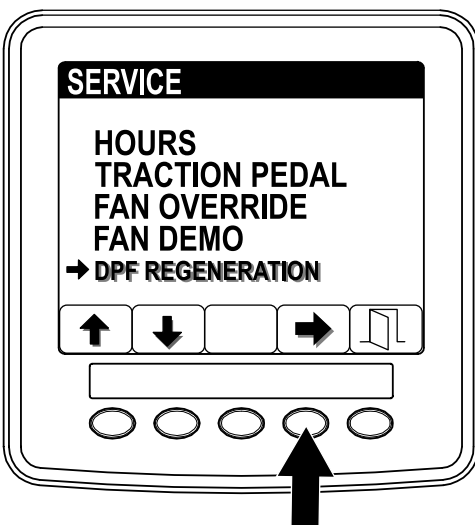

Figure 33
1. Access the Service menu, and press buttons 1 or 2 to scroll to the DPF REGENERATION option (Figure 33).
2. Press the button 4 to select the DPF Regeneration entry (Figure 33).